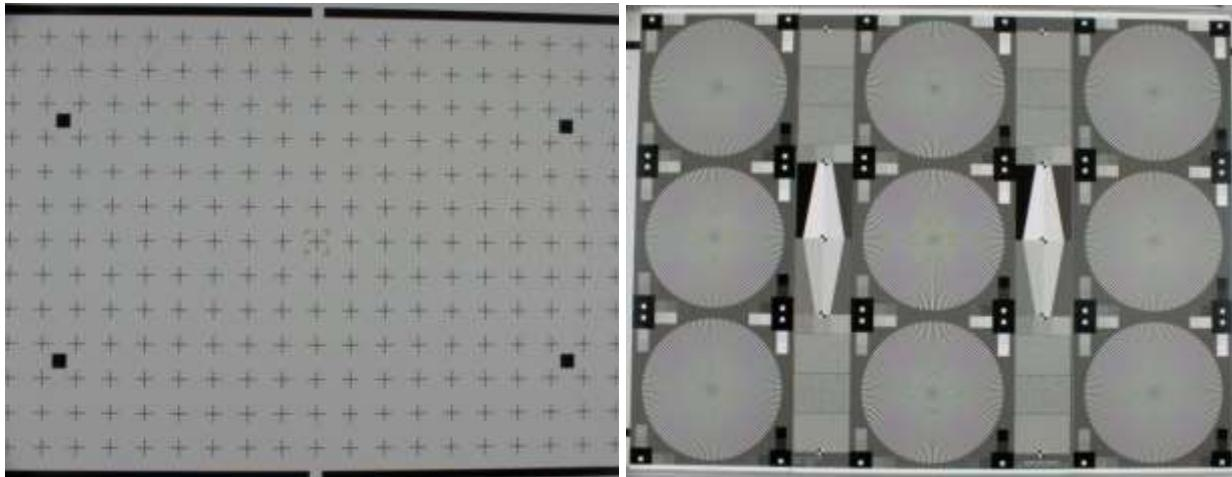

Figure 31. Examples of Images with Up, Right and Counter-clockwise Rotation
33. As examples, the images just above contain a combination of Up, Right and Counterclockwise tripod head rotations (Figure 31).